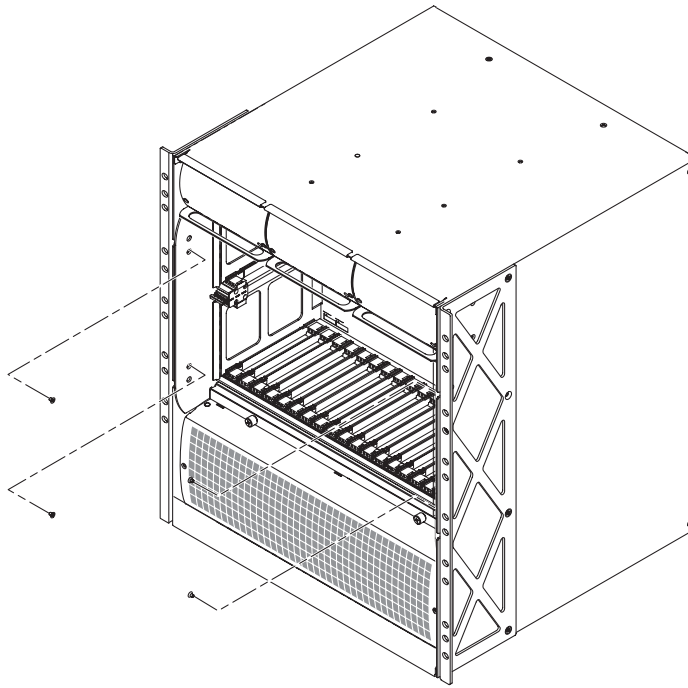

FIGURE 7-2 Midplane Assembly Retention Screw Locations
FIGURE 7-2 shows the location of the two retention screws on the left side of the enclosure; the other two retention screws are in the same location on the right side of the enclosure.
4. Replace the four midplane assembly retention screws on the front of the enclosure (FIGURE 7-2).